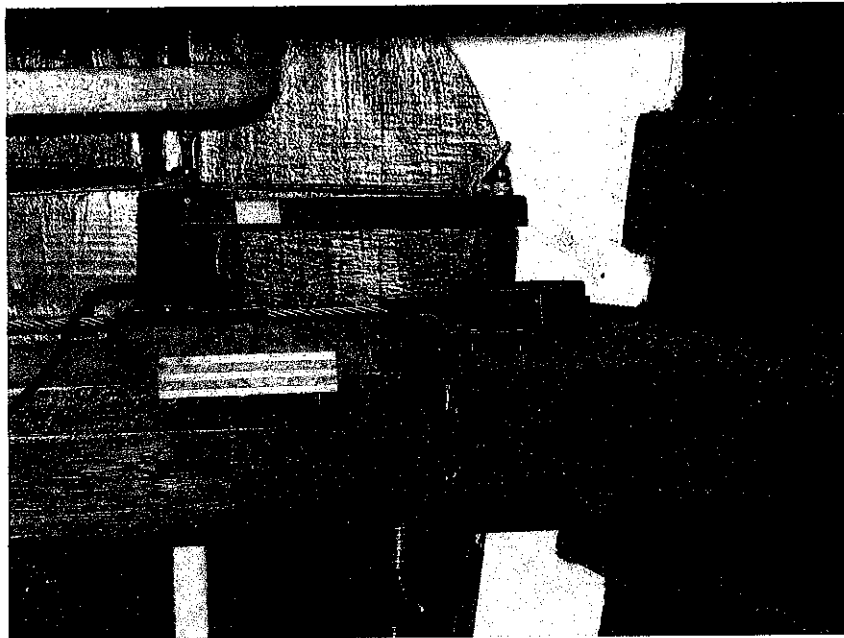

Figure 3 Port side steering cable turning block is lifting from it's support piece. Tighten bolts down
- * 3. Figure 3 Repair items. Port side steering cable turning block is lifting off its support. Tighten the bolts .